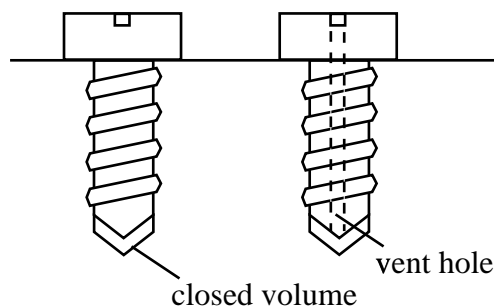

Fig 1 The screw to the right has a bored through ventilation hole to prevent virtual leaks and slow pump-down
- One of the most common sources of virtual leaks is threaded holes for screws which have not been ventilated properly. Drill a 1 mm hole through the centre of the screw or, drill a hole from the bottom, or mill a narrow gap all the way down to the bottom on one side of the hole for the screw as shown in Fig. 1.